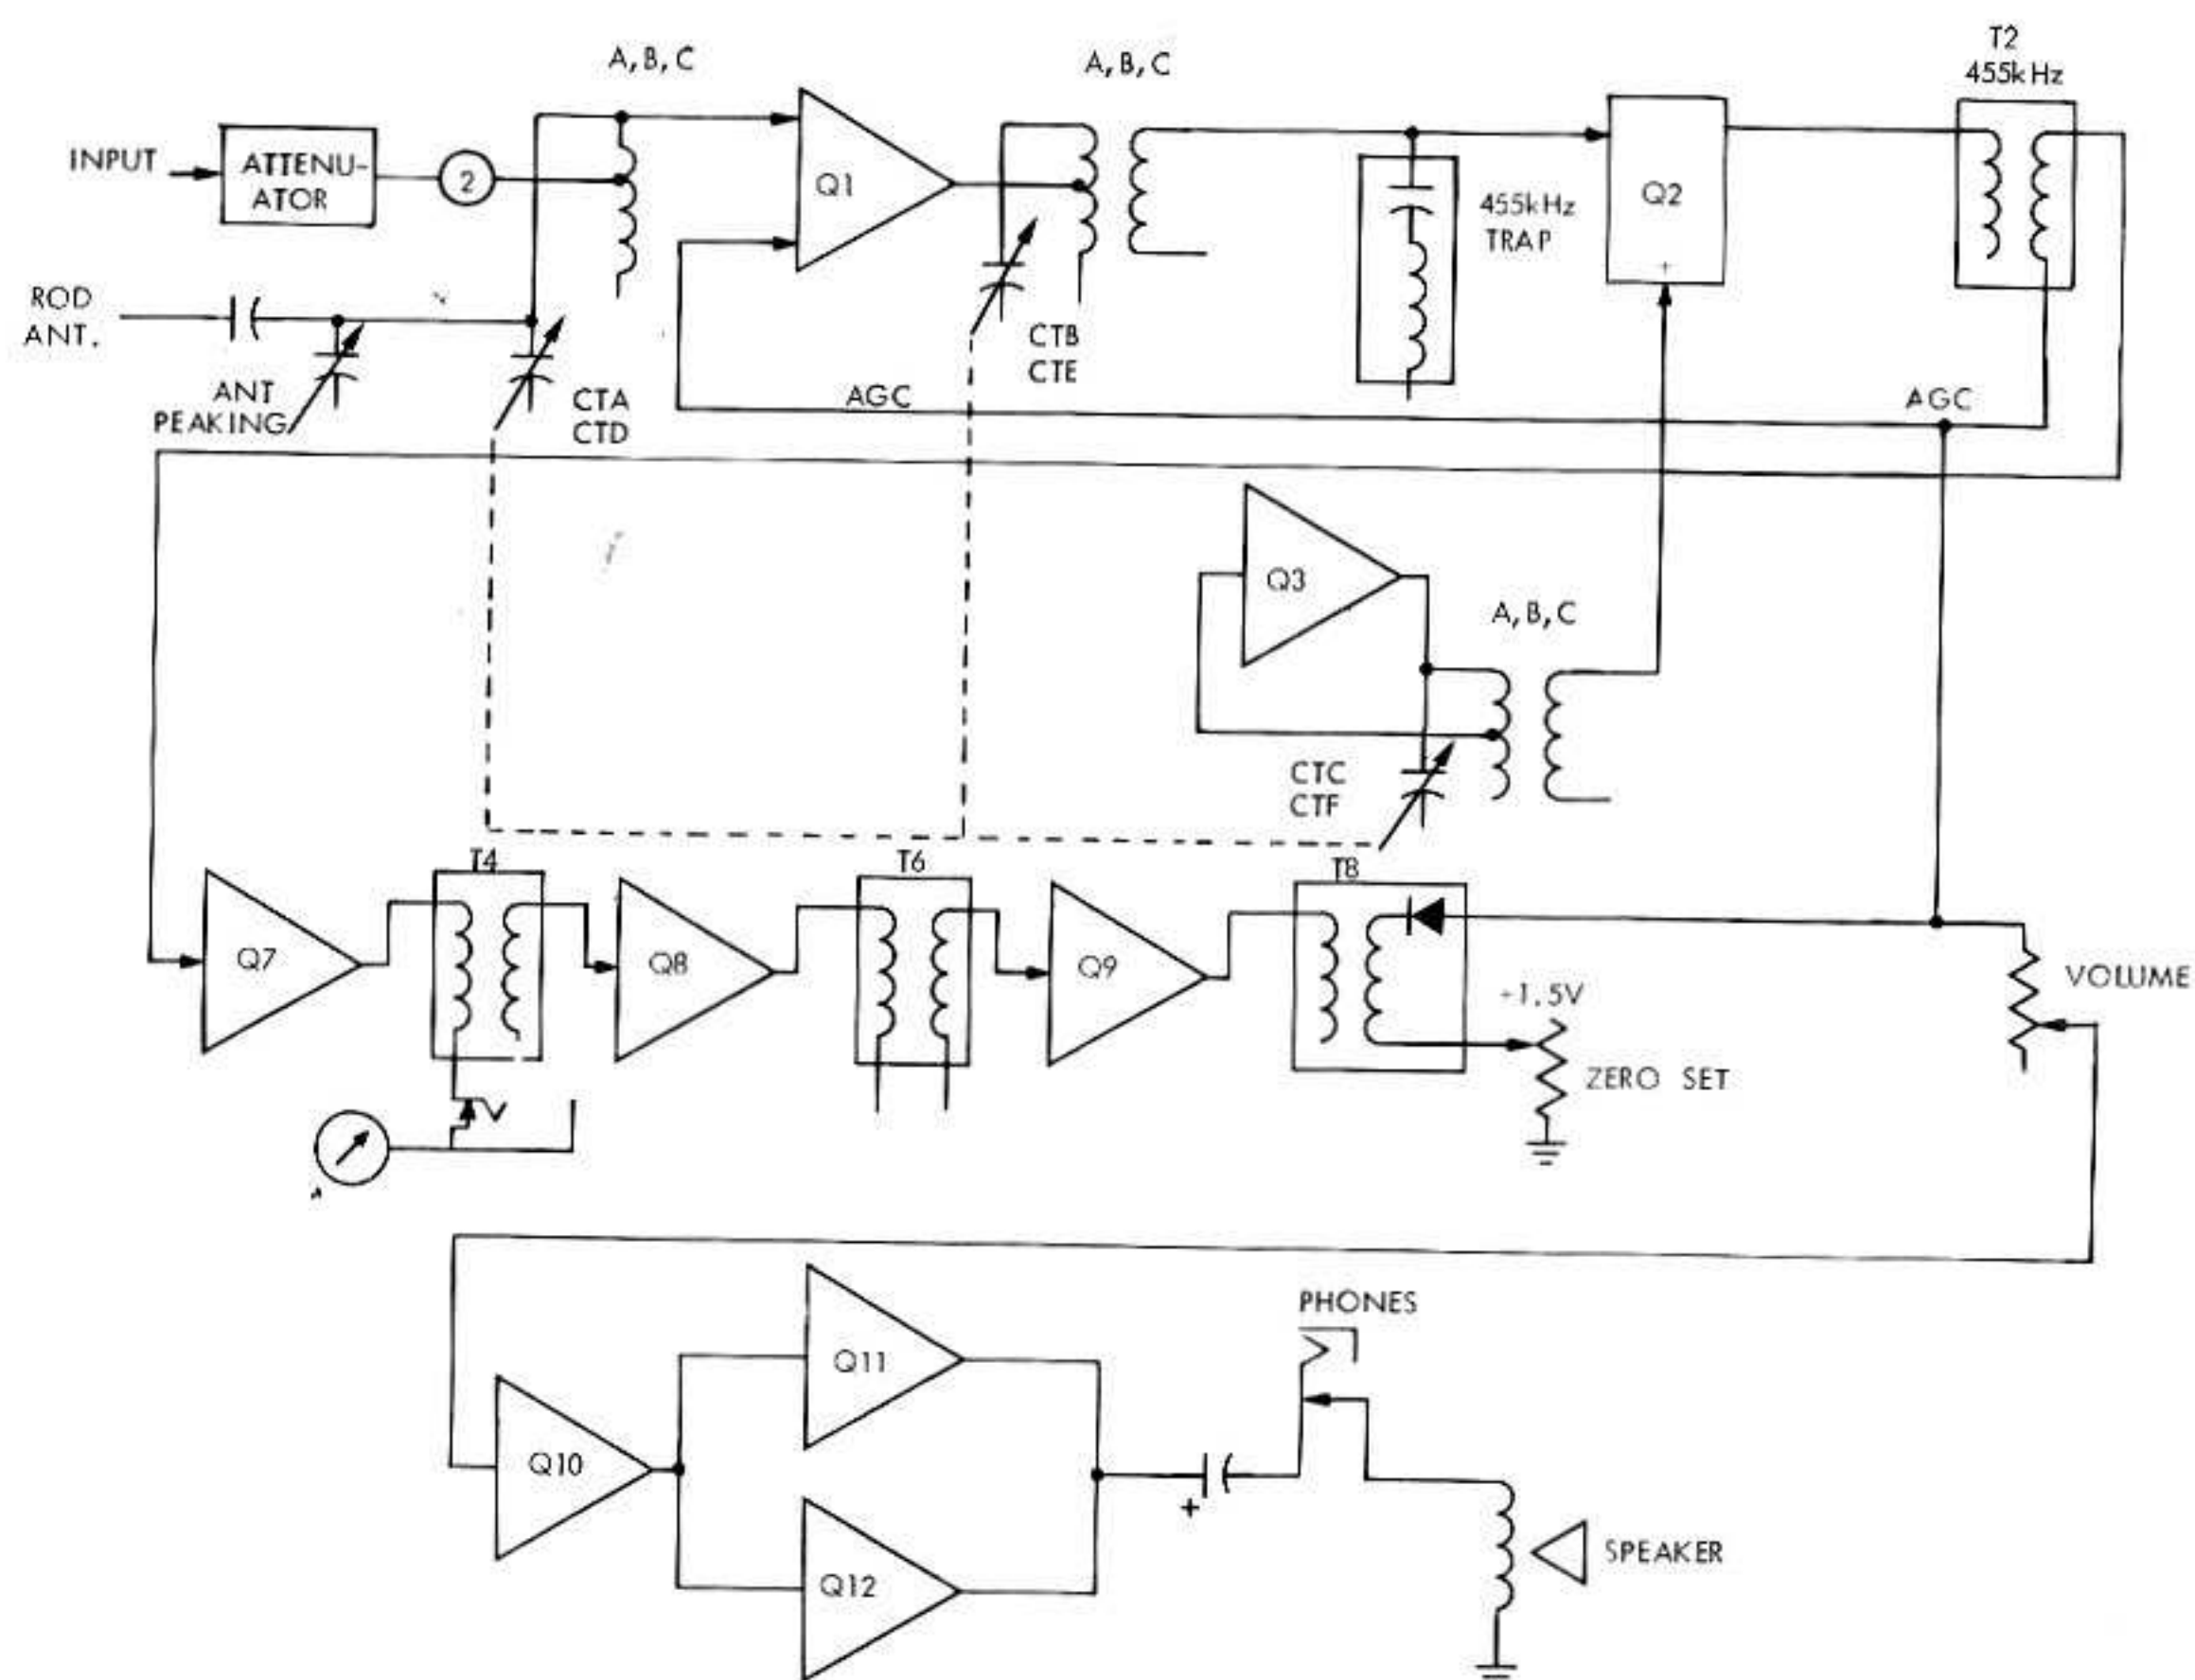
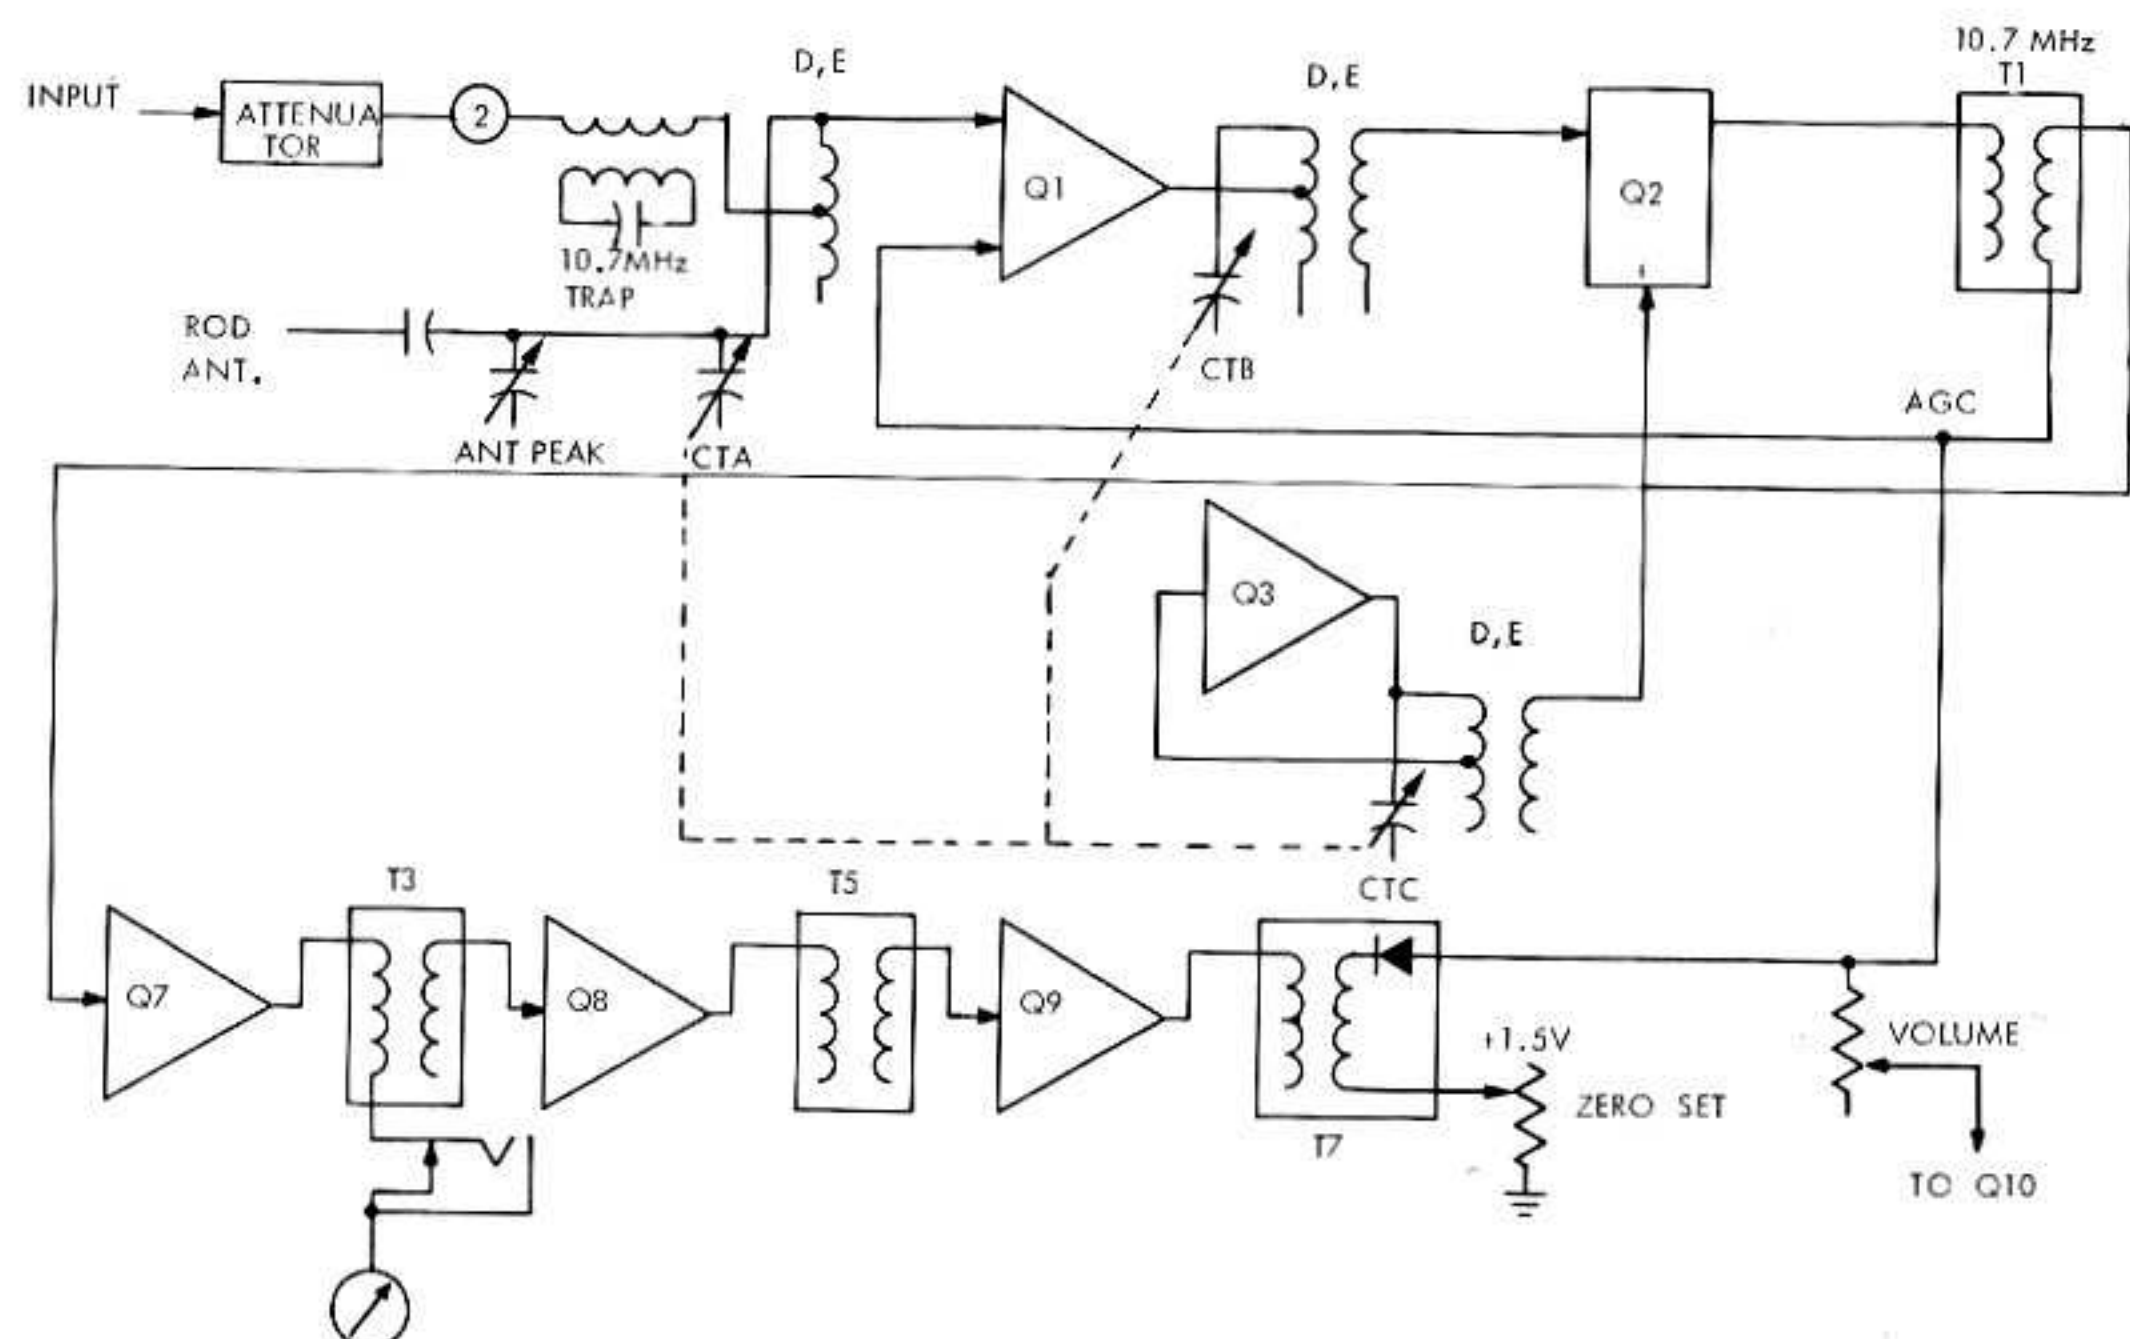
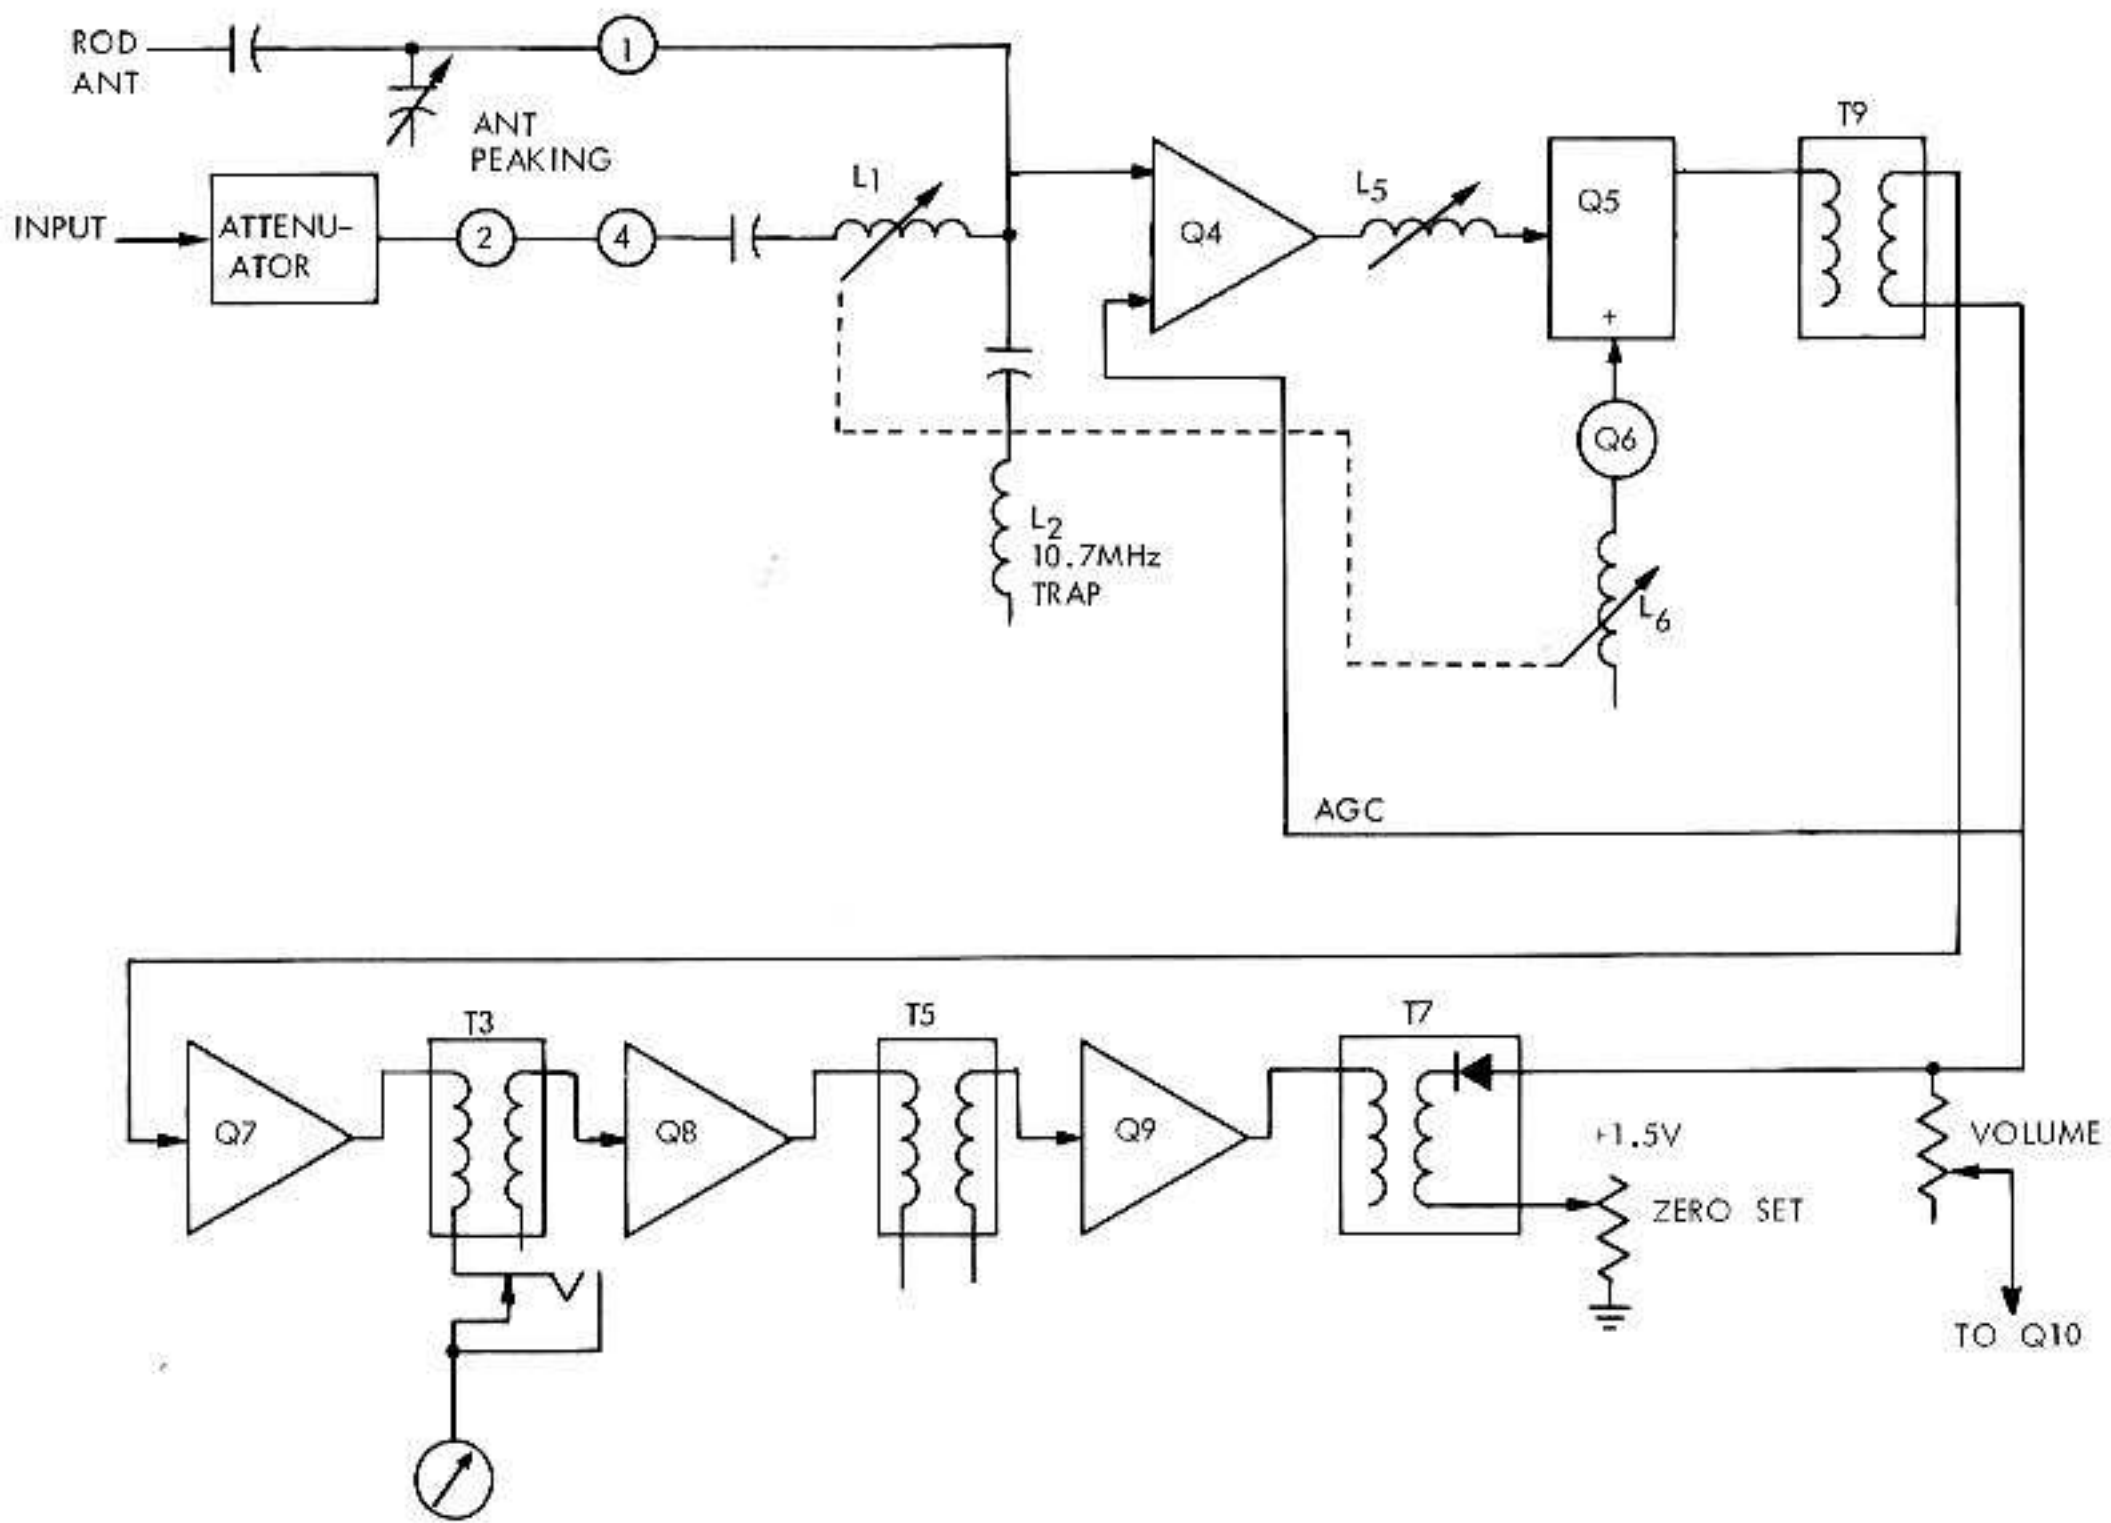
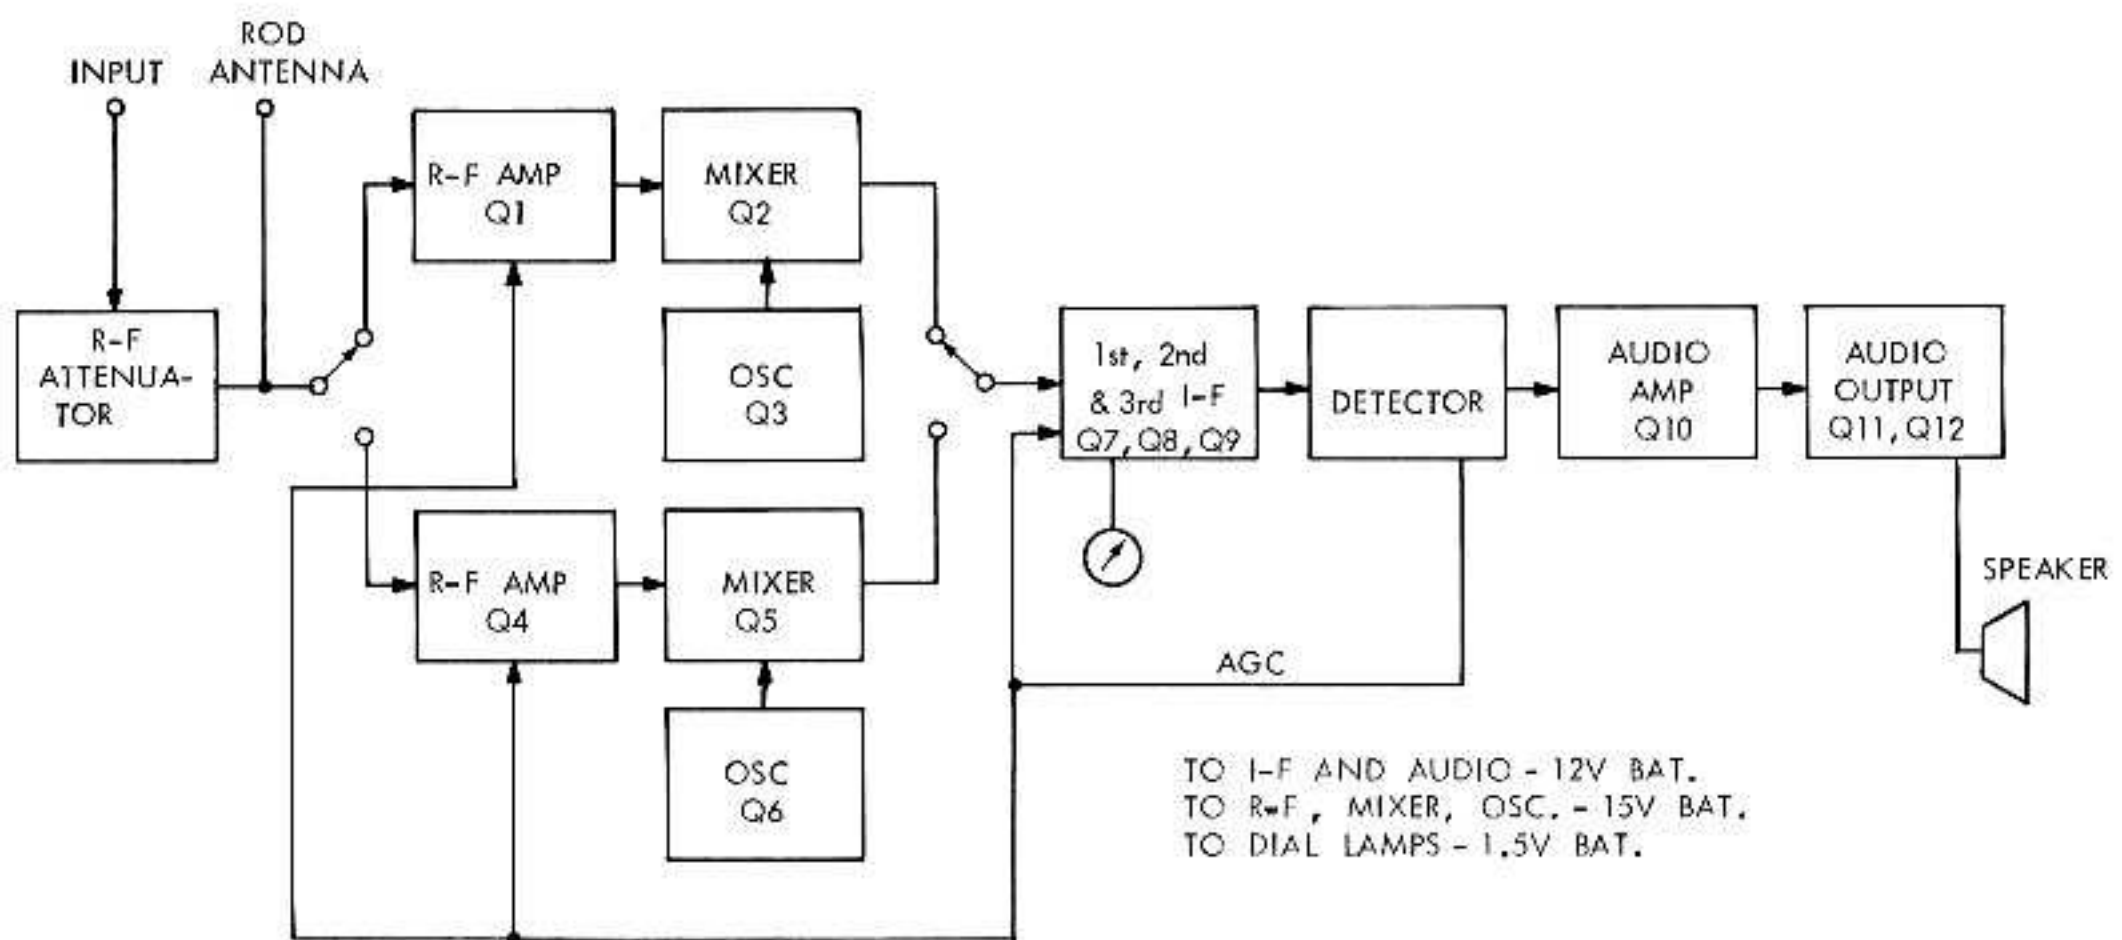

Figure 1
Figure 2
Figure 3
Figure 3A
2.2 Block Diagrams. The block diagrams for bands A, B and C are shown in Figure 1, bands D and E are in Figure 2 and the block diagram for Band F is shown in Figure 3. The block diagram for the complete instrument is shown in Figure 3a.
Block diagrams of the band-switched locator circuits are shown in Figures 1, 2 and 3, and Figure 3a, below is the block diagram of the complete circuit.